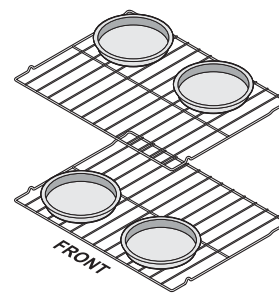

Figure 9: Pan spacing
- When baking using two oven racks, position cookware as shown in Figure 9. Allow at least 2 inches (5 cm) of space between cookware for proper air circulation.